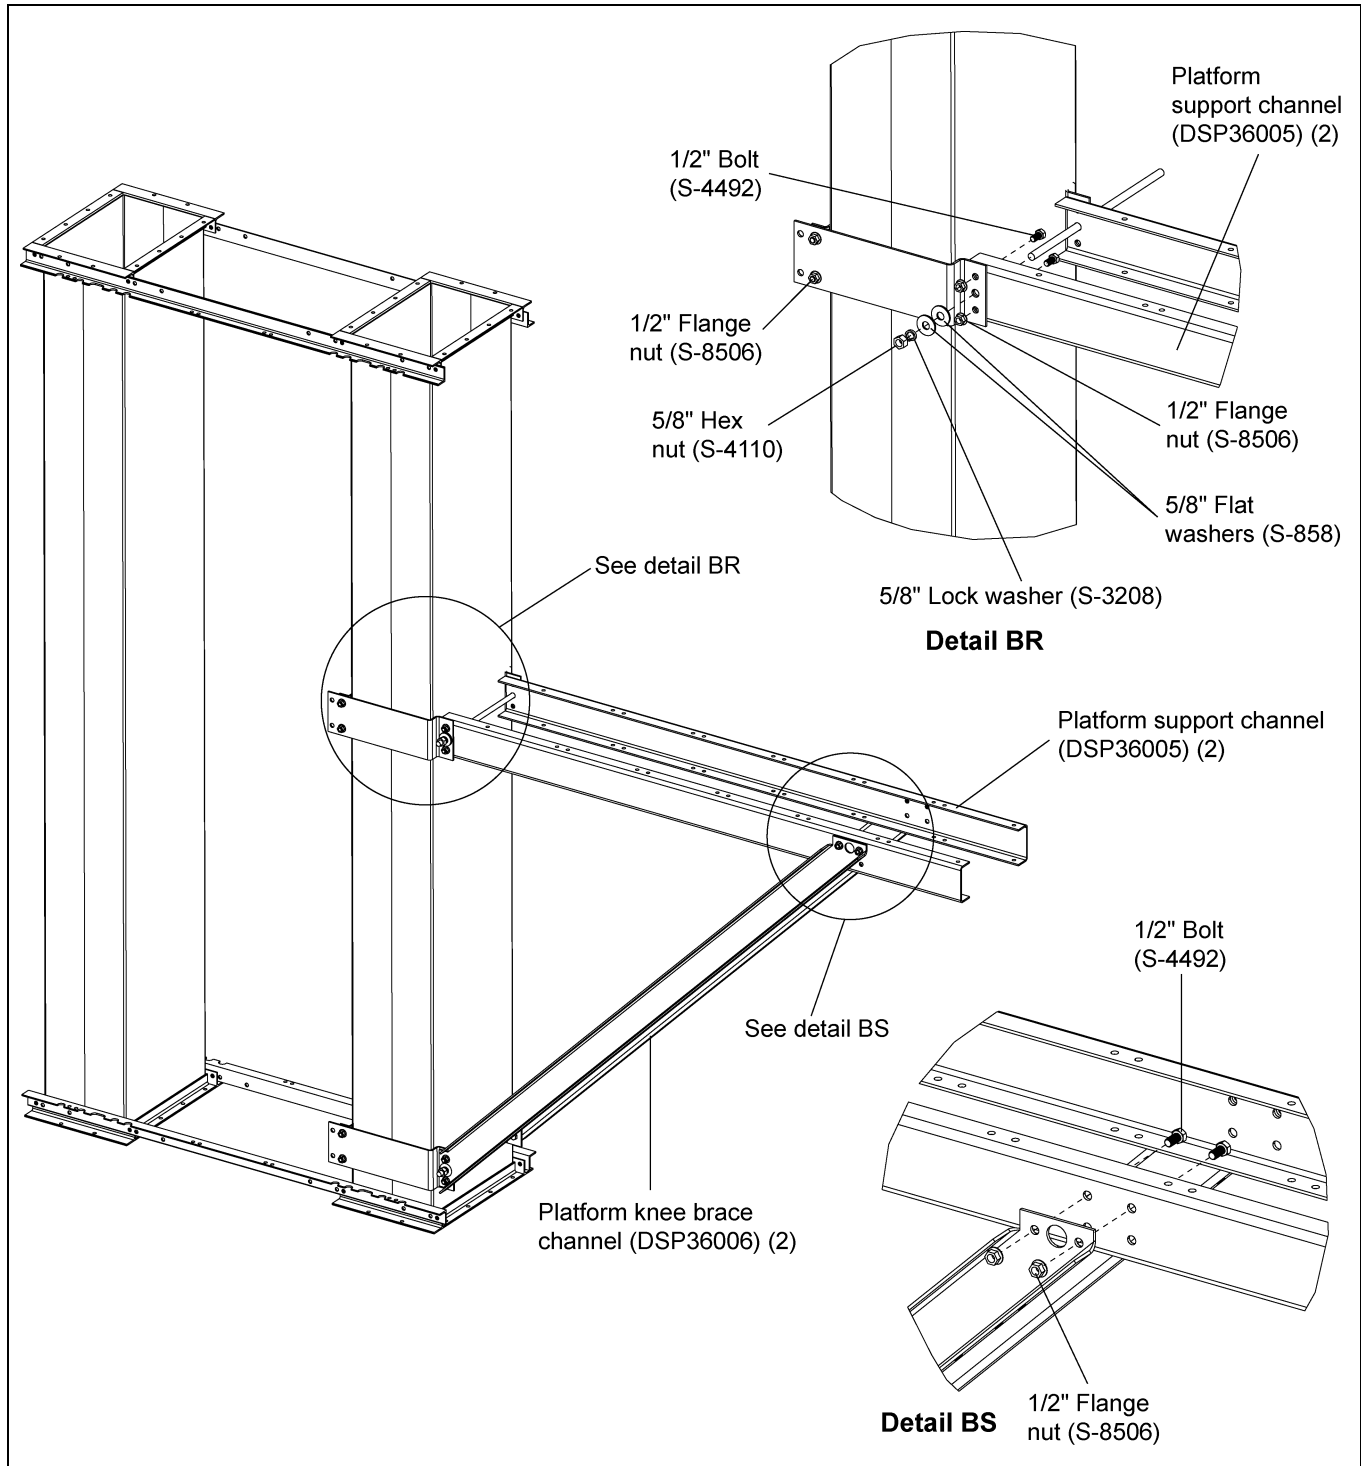

Figure 10C
Insert rod (DSP36008) through middle hole in the bracket, attached to the platform support channel using 5/8" hex nut (S-4110), 5/8" lock washer (S-3208) and two (2) 5/18" flat washers (S-858). The knee braces will attach in the upper set of holes on side of support channels using 1/2" hardware. *(See Figure 10C.)*